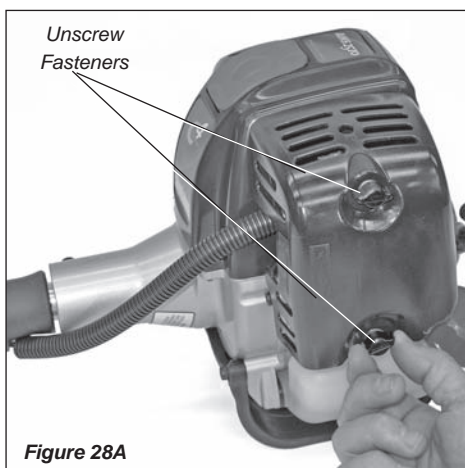

Figure 28A
1. Remove the air cleaner cover by loosening the thumb screws and lifting up. See Figure 28A.